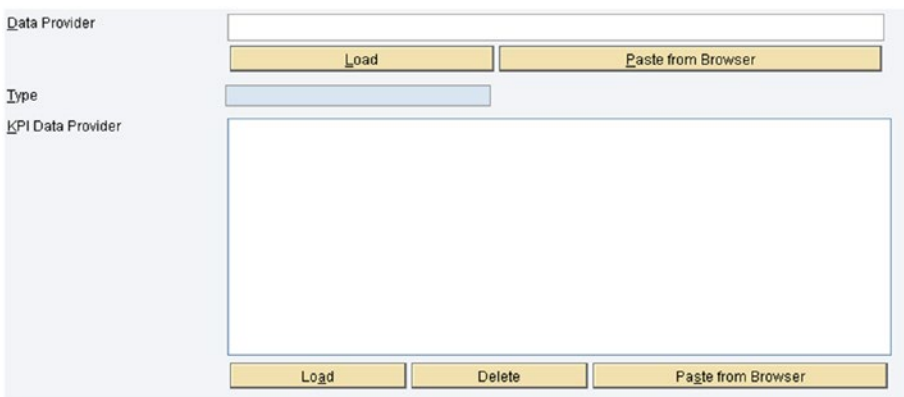

Figure 7-95. Data Provider screen in a composite KPI
7. On the Data Provider page, there is an additional area called KPI Data Provider (see Figure 7-95). This field allows you to add the KPIs on which composite KPI is dependent. To add dependent KPIs, click the Load button and then select the KPIs from the popup box. Click OK.